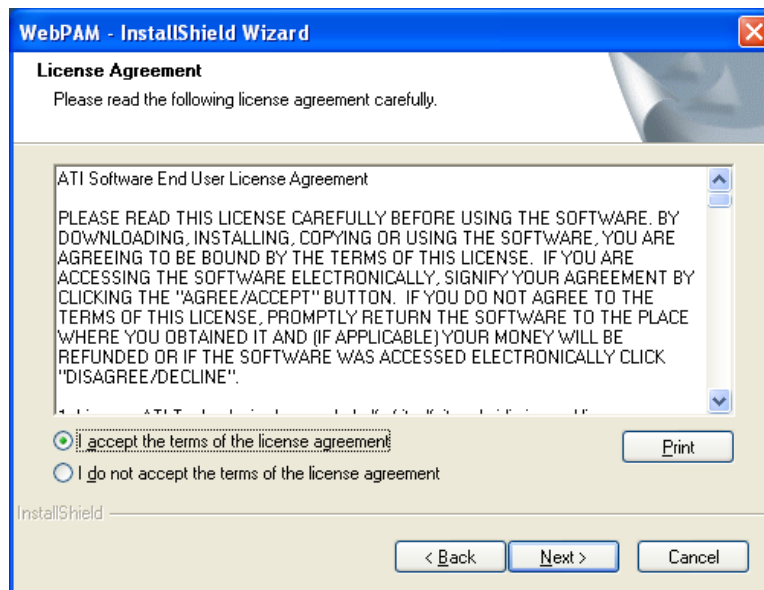

Figure 7-32: WebPAM License Agreement
Step 11: The license agreement shown in **Figure 7-32** appears.